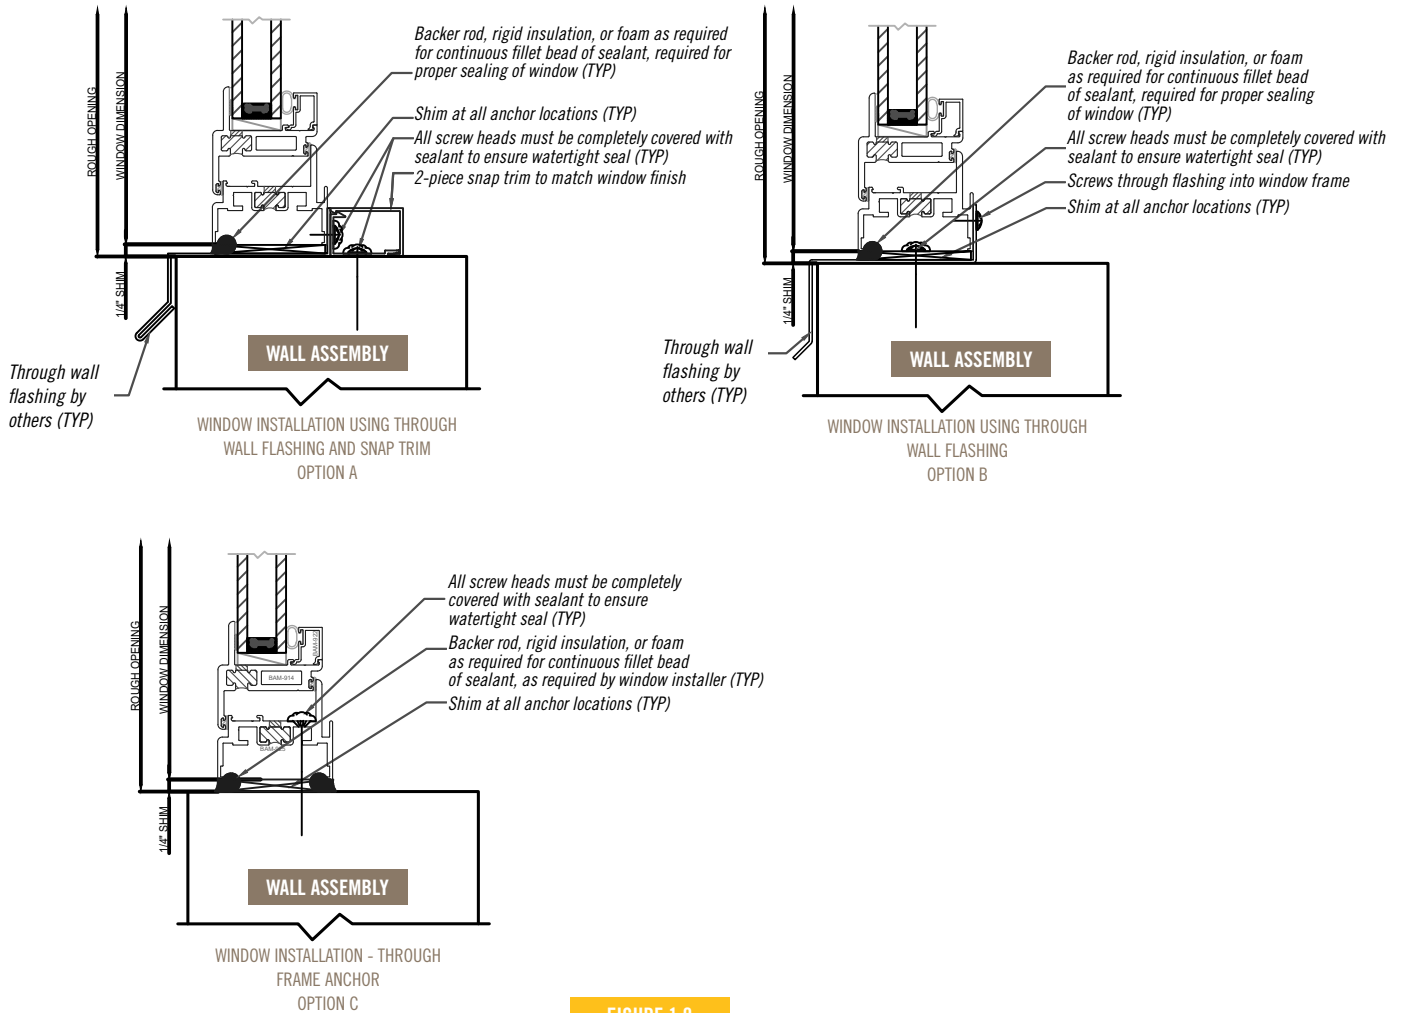

FIGURE 1.0
- Installation instructions are intended to be a reasonable guideline for the installation of window units and trims, based on common conditions. Conditions on a project vary, and deviations and/or special instructions should be defined in the shop drawings. See *Figure 1.0* for installation options.
- Line the window up in the prepared opening, shimming as necessary. See *Figure 1.3*. Fasten the trim clip to the substrate and the window and seal the heads. See *Figure 1.0* for typical sill details.